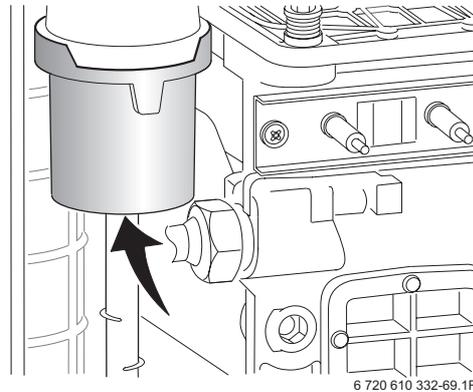

Fig. 44
- ▶ Unscrew the two fixing screws and carefully remove the electrode assembly. Refer to fig. 44.